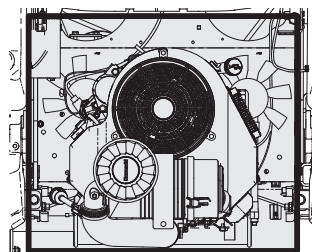

Figure 31
- Clean around the exhaust manifold, fuses, all wiring and harnesses, muffler pipe, muffler shield, engine intake screens and cooling fins, etc (Figure 31).